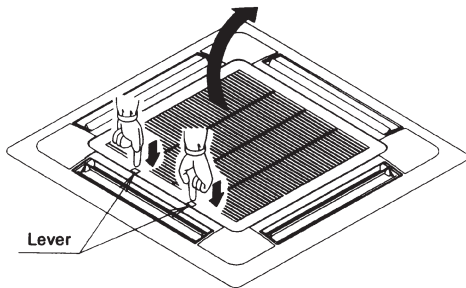

Fig. 1
(1) Remove the suction grille from the decoration panel.
- ① Push the suction grille lever inward and lift up the lever side. (Refer to Fig. 1)